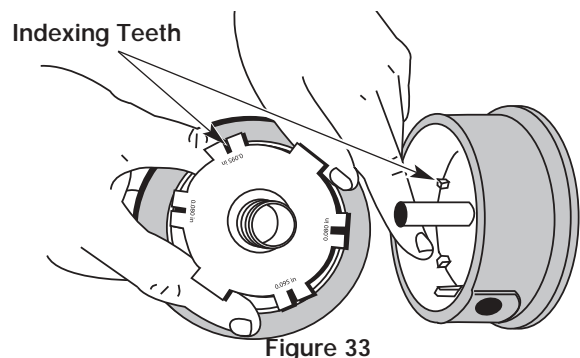

Figure 33
5. Check the indexing teeth on the inner reel and outer spool for wear. If necessary, remove burrs or replace the reel and spool. See Figure 33.